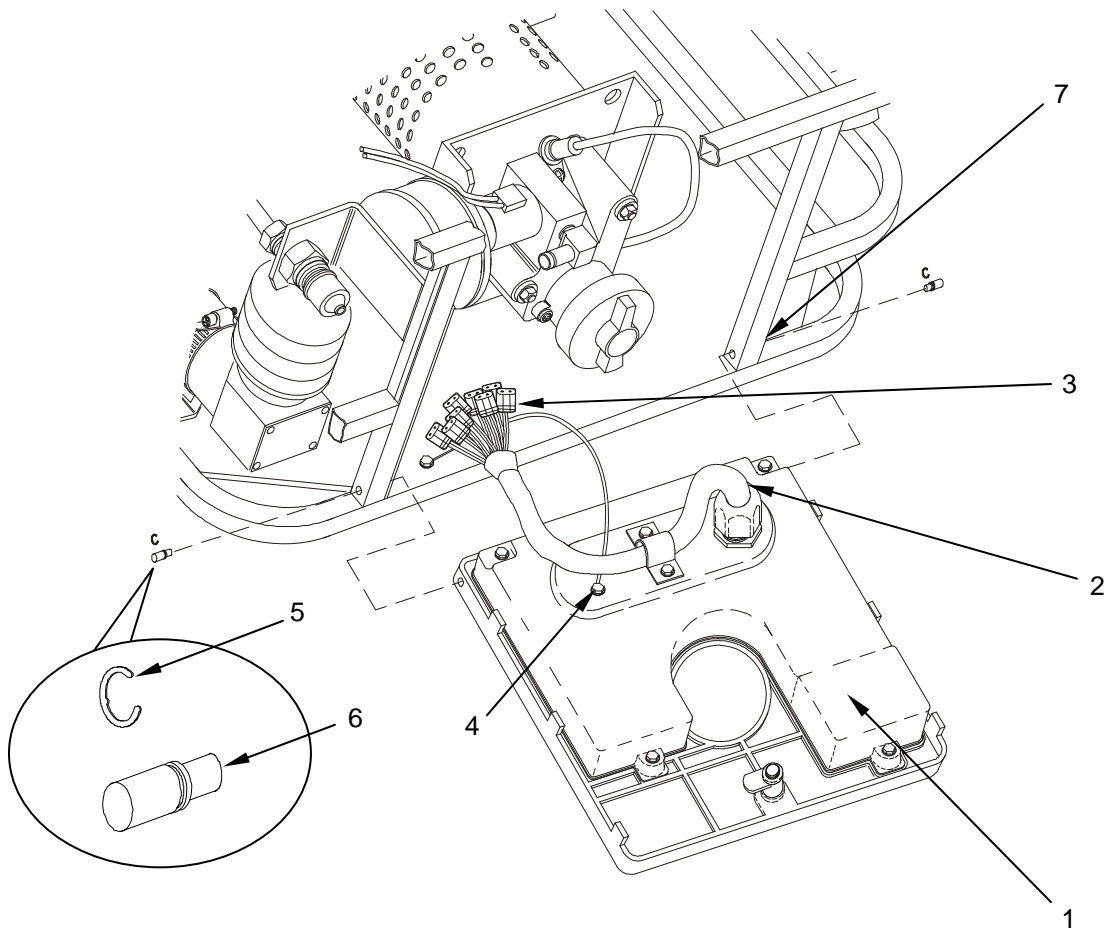

Figure 3. Replace the Controller Assembly.
1. Ensure power is disconnected, and open hinged controller assembly (Figure 3, Item 1).
2. Follow the cable harness (Figure 3, Item 2) from the back of the controller assembly into the MBU. Note that the wires exiting each connector are color coded. Disconnect the eight connectors (Figure 3, Item 3) at the opposite end of the harness.
3. Remove ground screw (Figure 3, Item 4) on door panel using an adjustable wrench.
4. Remove snap rings (Figure 3, Item 5) from hinge pins (Figure 3, Item 6) with flathead screwdriver and remove hinge pins from frame (Figure 3, Item 6).
5. Remove the entire controller assembly (Figure 3, Item 1) from system.
6. To install new hinge pins (Figure 3, Item 6), place controller assembly (Figure 3, Item 1) into position and insert hinge pins through frame (Figure 3, Item 7).
7. Secure hinge pins (Figure 3, Item 6) with snap rings (Figure 3, Item 5).
8. Reinstall the connectors (Figure 3, Item 3) at the end of the controller harness assembly (Figure 3, Item 2). Be sure to follow the color coding of the wires.
10. Close and secure the hinged controller assembly (Figure 3, Item 1).